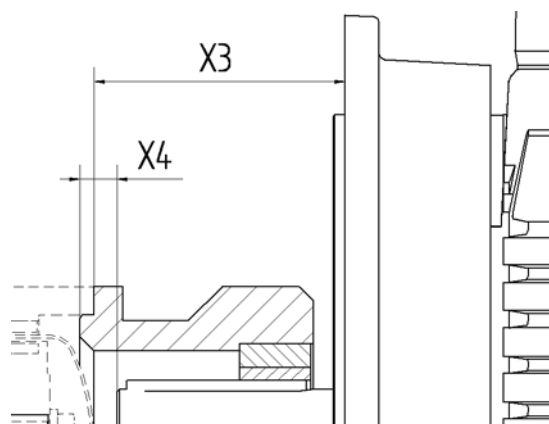

Figure 6: Setting X3 or X4.
- 6 Adjust the rotor coupling according to value X3 or X4, see figure 6 and the table below.